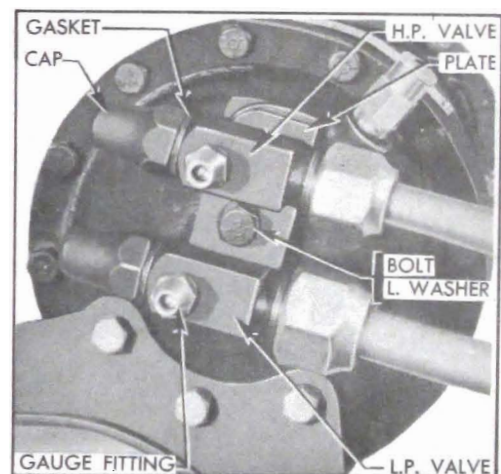

Figure 11-17—High and Low Pressure Valve Installation
3. Remove protective caps and firmly close both valves on rear end of compressor by turning valve stems clockwise. See figure 11-17.